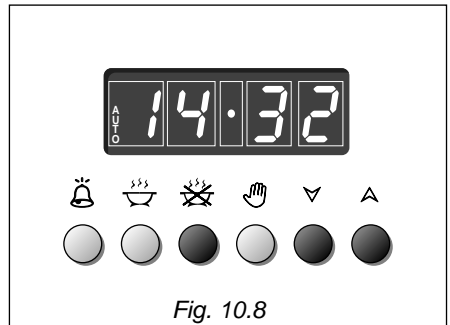

Fig. 10.8
2. Set the time you need the food to stop cooking by pushing the  button and the  button to advance, or  to go backwards if you have passed the desired time (Fig. 10.8).